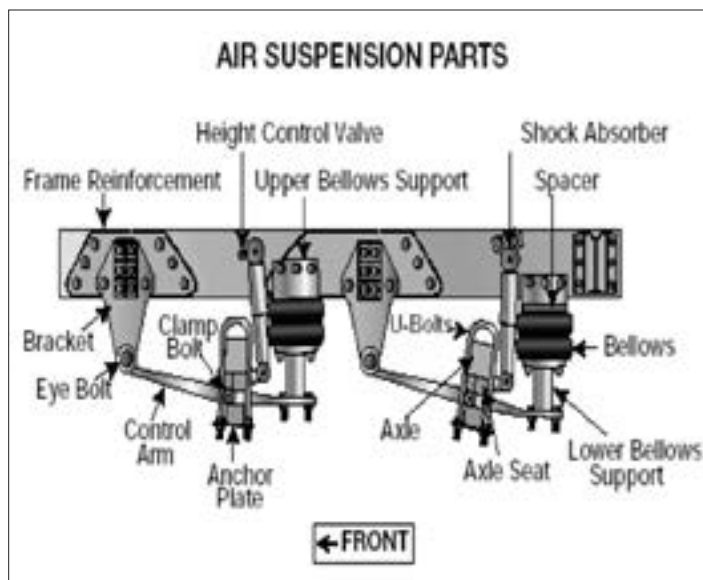

Figure 2.4
- Air suspension systems that are damaged and/or leaking. See Figure 2.4.